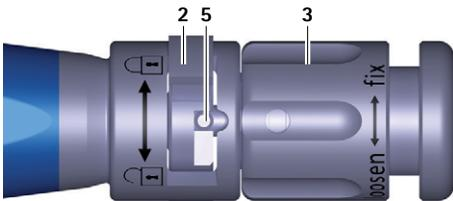
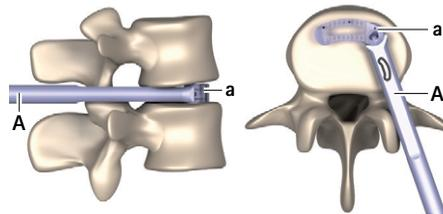

Fig. 3 Close-up view of the insertion instrument, switch closed
Fig. 11 Implant in end position
- ▶ Turn the switch 2 to the right (↻ direction), see Fig. 3.
- ▶ Turn the rotary nut 3 counterclockwise ("loosen" direction), until the pin 5 is fully in the switch 2, see Fig. 3. When doing so, ensure that the pin 5 does not jam the switch 2.
- ▶ Turn the switch 2 to the right (↷ direction), see Fig. 3.
- ▶ As soon as the end position (see Fig. 11) is reached: Turn the rotary nut **3** counterclockwise ("loosen" direction), until the pin **5** is fully in the switch **2**, see Fig. 3. When doing so, ensure that the pin **5** does not jam the switch **2**.
- ▶ Turn the switch **2** to the right (↻ direction), see Fig. 3.